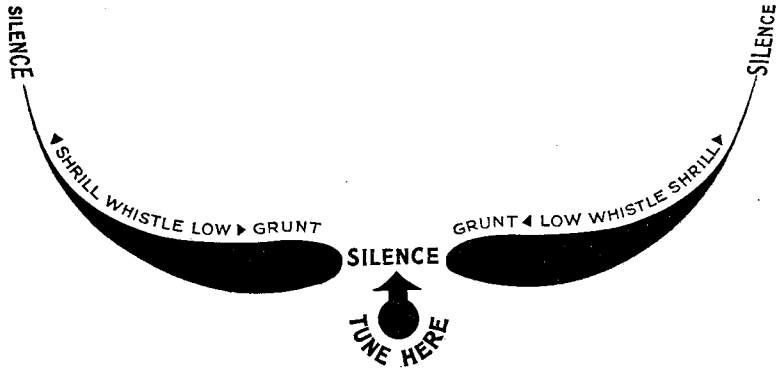

Fig. 10
- 2** Press NET. Tune NETTING TRIMMER for zero beat reducing R. F. Gain to give strength 3 signal. (see Fig. 10.)